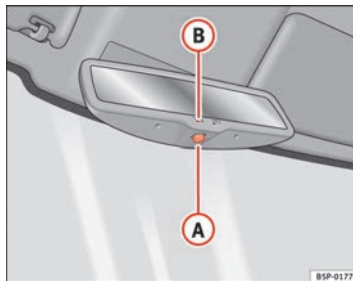

Fig. 87 Automatic anti-dazzle interior rear vision mirror.
- Press button **A** ⇒ Fig. 87. Control lamp **B** goes off.
- Press button **A** ⇒ Fig. 87. Control lamp is lit.